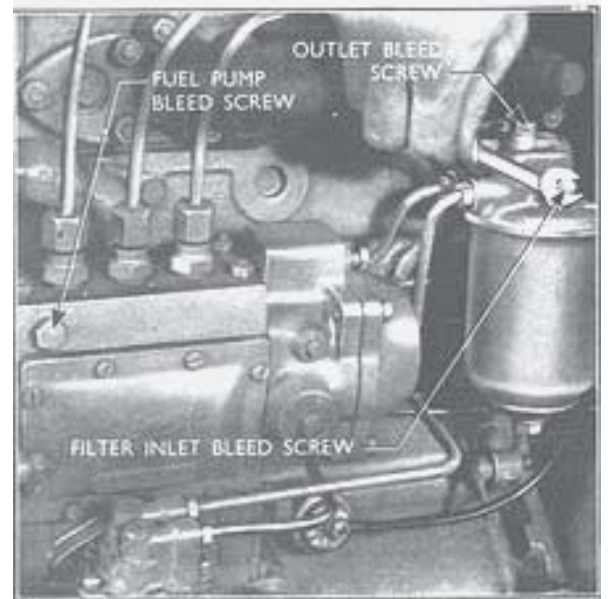

Fig. 3
2. Remove the two bleed screws from the top of the fuel filter (see Fig. 3), and operate the priming lever on the fuel lift pump until a stream of fuel free from air bubbles issues from the filter. Replace and tighten first the inlet and then the outlet bleed screws as the priming lever returns to its uppermost position.